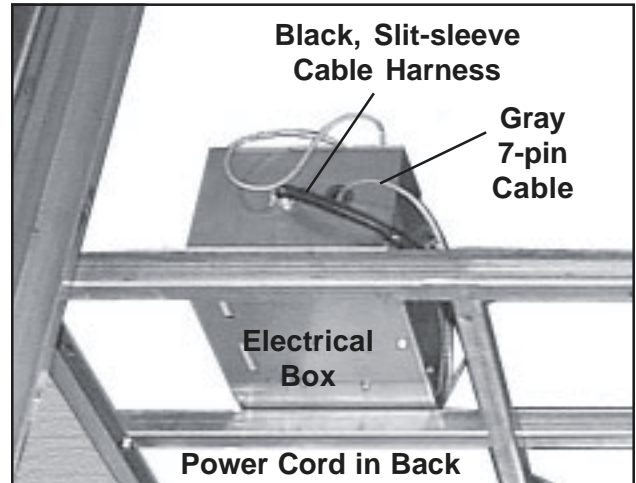

Figure 11. Electrical Box Cables
2. Pass the black, slit-sleeve (long) cable and the gray cable from the electrical box (Figure 11) over the cable plate between the mounting brackets. **Note:** The ends of the cables should exit toward the front.